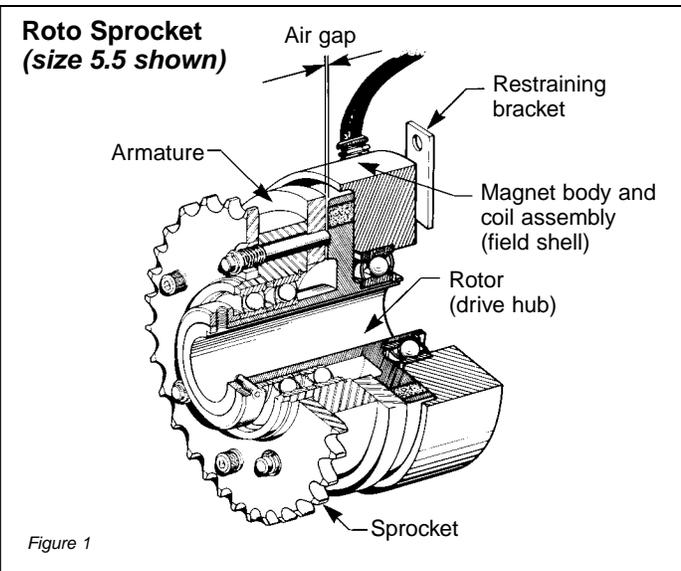

Figure 1
**Note:** When mounting the sprocket, be sure the mounting screws DO NOT contact the armature causing a loss of air gap. For reference purpose only, the nominal air gap when de-energized should be .010-.030. (See Figure 1).